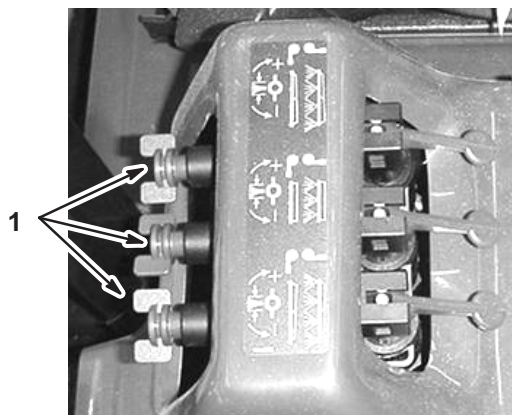

Figure 23
- Adjust the boom bypass valve (Fig. 23) for the boom you turned off until the pressure reading on the gauge is the same as it was in step 10.